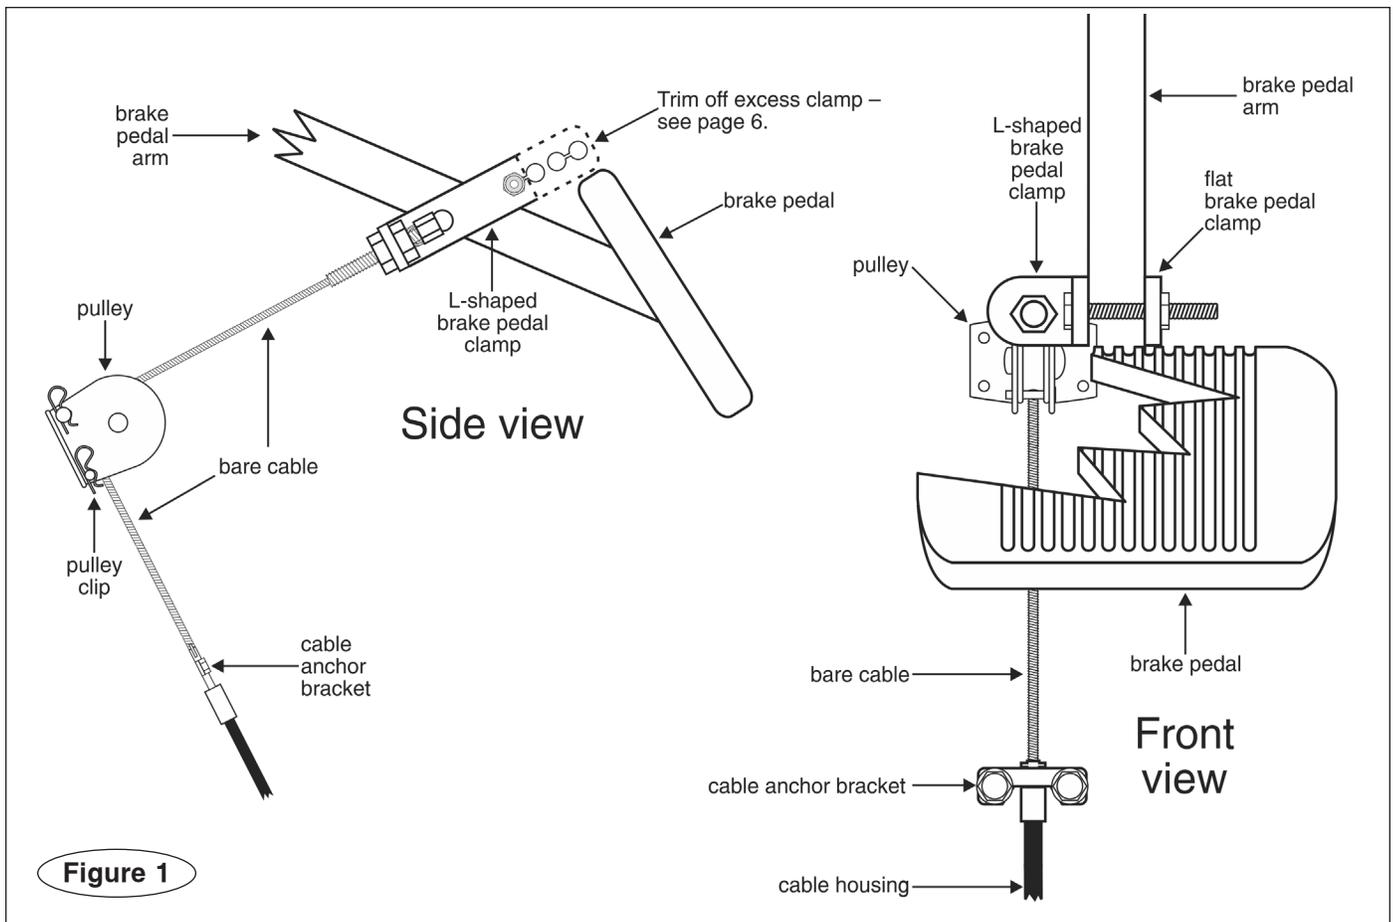

Figure 1
Position the pulley and both sections of the brake pedal clamp as shown in Figure 1, so that they are
- The pulley (Figure 1) must be positioned directly in line with the L-shaped brake pedal clamp so that the
Note: ideally, the pulley should be attached so that the cable runs parallel to the brake pedal arm, as shown in Figure 1. If the design of the passenger compartment or other constraints prohibit this, the pulley can also be mounted at an angle.
Based on where you will attach the pulley and brake pedal clamp, find the mounting location for the cable anchor bracket (Figure 1). This point must...